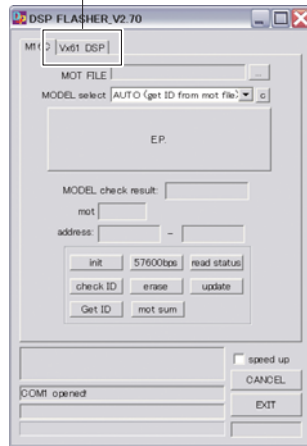

Fig. 4
1. With the power cable of this unit unconnected to the AC outlet, start up DSP_FLASHER Ver2.7.exe. The screen appears as shown below. (Fig. 4)
2. Click [Vx61 DSP]. (Fig. 4)